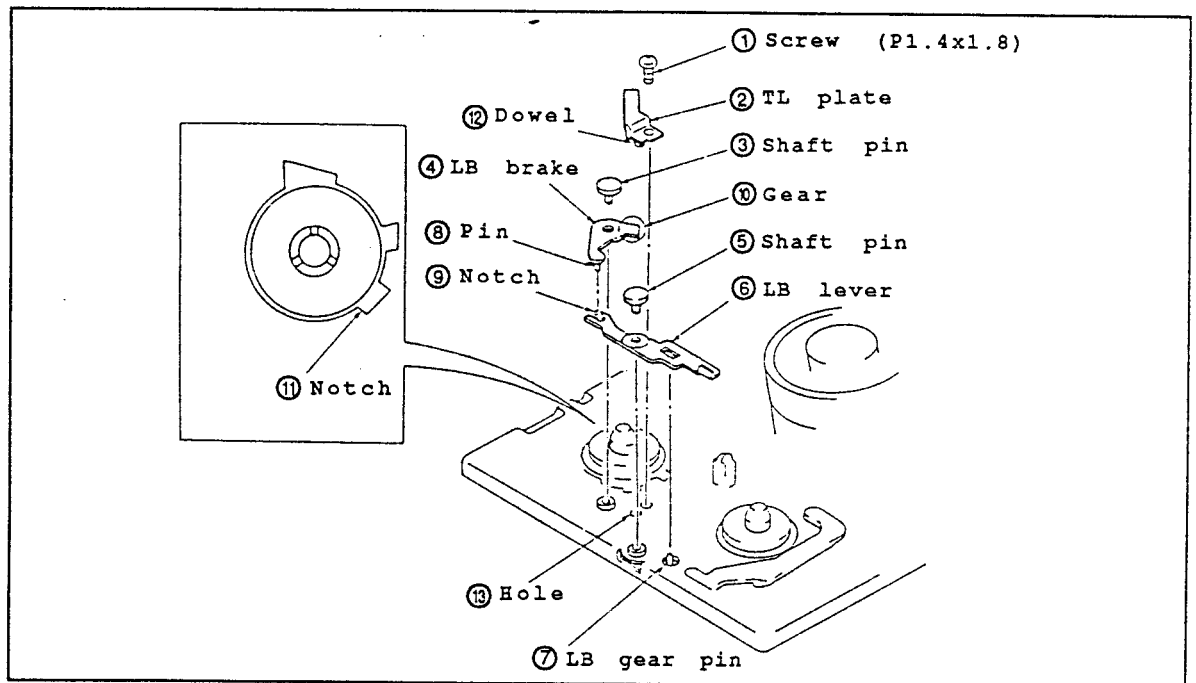

Fig.II-11
- Reassembling (Fig.II-11)
- (1) Assemble the LB lever ⑥ while inserting the LB gear pin ⑦ to the hole of LB lever ⑥. Then, secure it with the shaft pin ⑤.
- (2) Assemble the LB brake ④ while inserting the pin ⑧ to the notch ⑨ of LB lever ⑥ and the gear ⑩ to the notch ⑪.
- (3) Install the shaft pin ③.
- (4) Assemble TL plate ② while aligning the dowel ⑫ and the hole ⑬. Then, secure it with the screw ①.